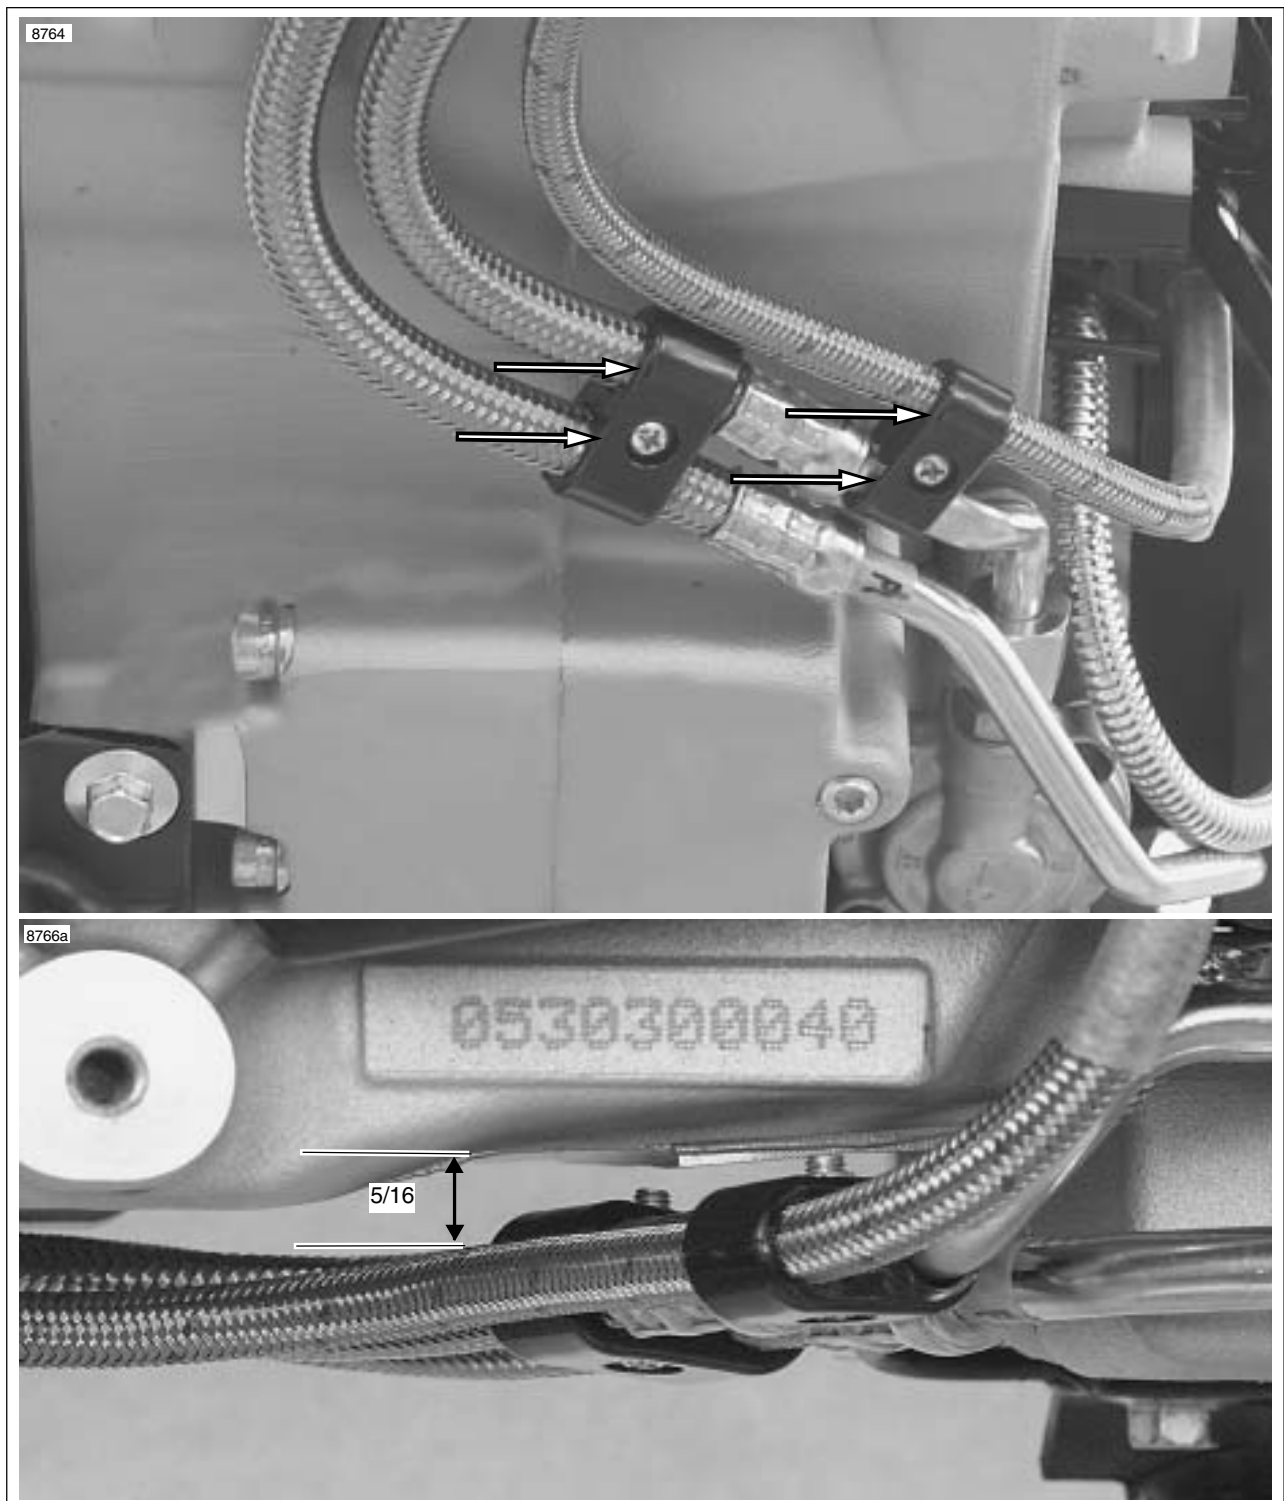

Figure 3-50. Clamp Orientation and Oil Line Spacing
28. See Figure 3-50. Verify that both black plastic oil line clamps are parallel to the crankcases and there is a clearance of 5/16 in. (7.9375 mm) between the bottom of the crankcases and the oil lines.